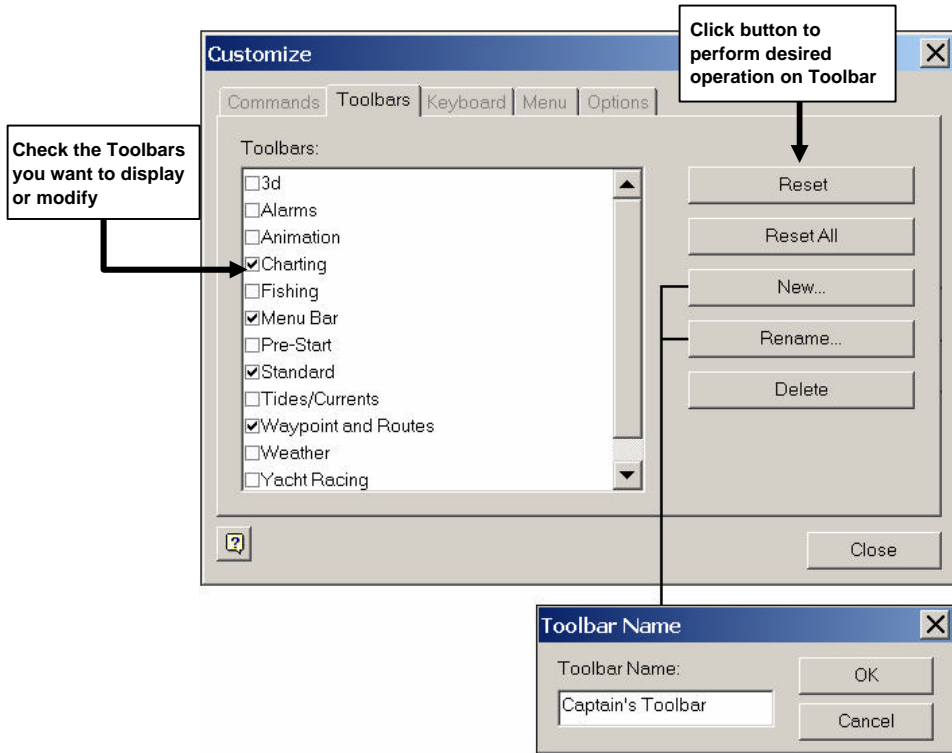

Figure 3-46. Customize Dialog Box Toolbars Tab
2. Click the **Toolbars** tab (Figure 3-46).
1. Click **New**. The Toolbar Name dialog box is displayed (Figure 3-46).
1. Click **Rename**. The Toolbar Name dialog box is displayed (Figure 3-46).